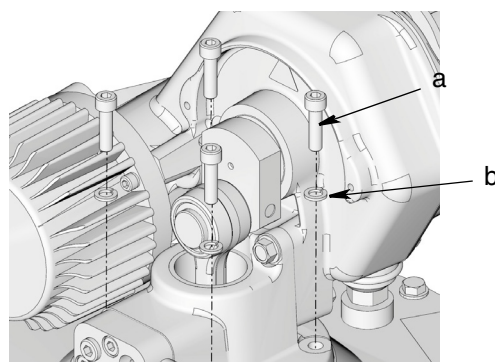

FIG. 48
27. Align holes in pump base with holes in tank / reservoir cover. Securely fasten pump to tank / reservoir cover using screws (a) and washers (b) (FIG. 48).